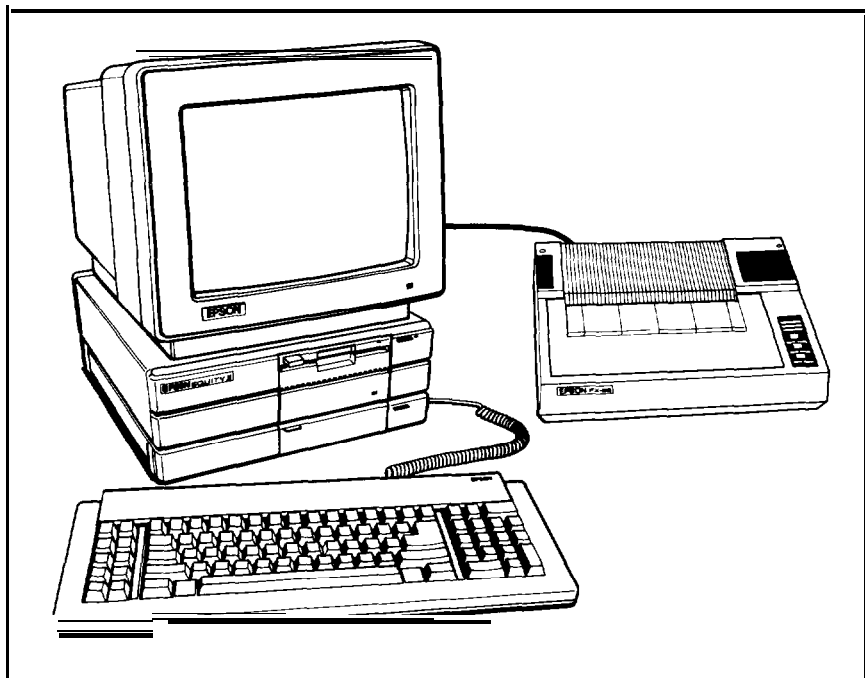

Figure 1-9. Printer placement
1. Place the printer next to your system, as shown in Figure 1-9.